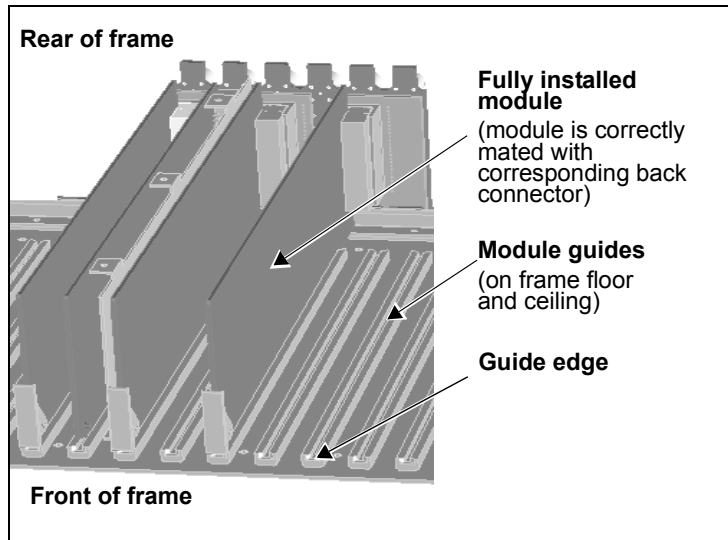

Figure 2-7. Frame Module Guides, Disassembled View
6. Slide the module into the guides on the frame floor. See Figure 2-7 on page 24.